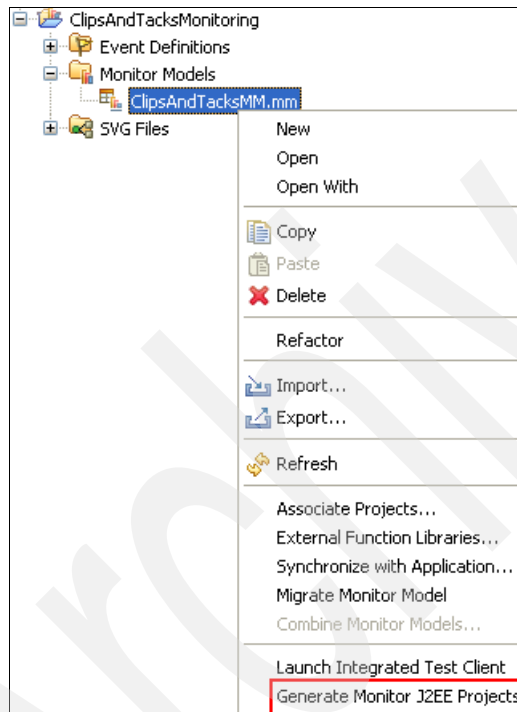

Figure 5-79 Selecting the Generate Monitor J2EE Projects option
3. Right-click **ClipsAndTacksMM.mm** and select **Generate Monitor J2EE Projects** (Figure 5-79).